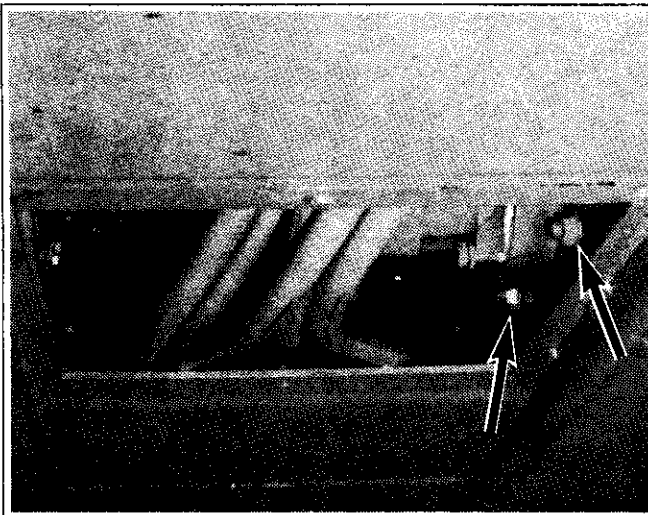

Figure 6-10
3. Loosen the four (4) 1/2 inch flanged nuts securing drive motor assembly to inner chain case wall. (Machines with internal brakes have removable access panels on the bottom for easier access to the bottom nuts.) (See figure 6-10)